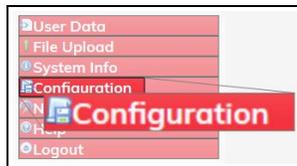

Figure 291: Configuration link
4. On the **Menu** list, click the **Configuration** link. Figure 291